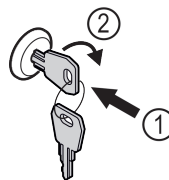

Fig. 145 Example illustration
- Insert key Fig. 145 (1).
- Turn key clockwise by 90° Fig. 145 (2).